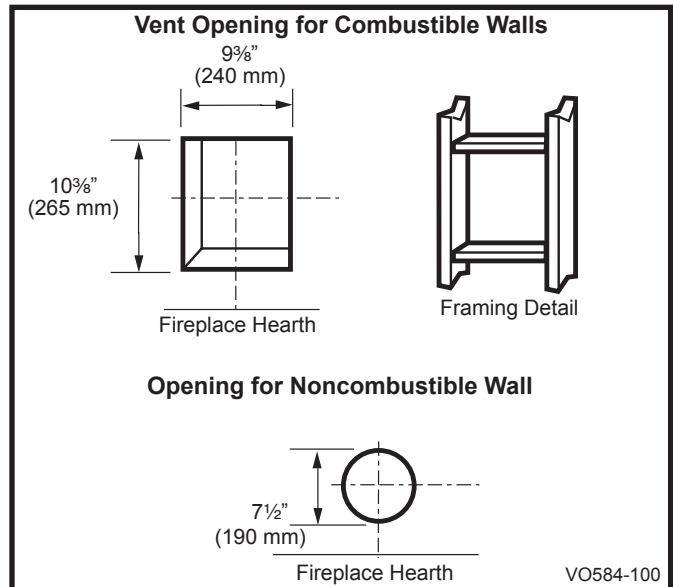

Fig. 21 Locate vent opening on wall.
For combustible walls first frame in opening. (Fig. 21)
**Combustible Walls:** Cut a 10 $\frac{3}{8}$ "H x 9 $\frac{3}{8}$ " W (265 mm x 240 mm) hole through the exterior wall and frame as shown. (Fig. 21)